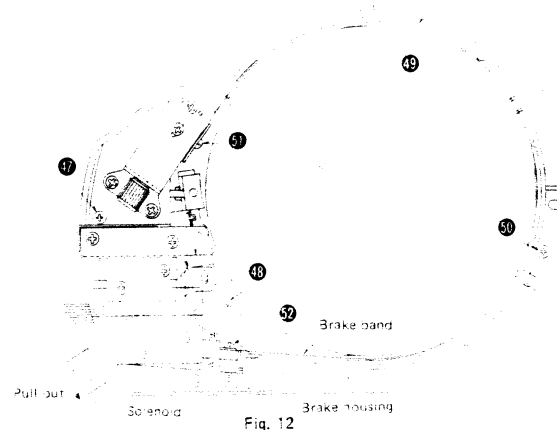

Fig. 12
4. Pull out the lead connector of the solenoid. (Fig. 12)
5. Remove the 4 setscrews (Fig. 12 : 47 ~ 50) of the brake and lift up the brake.
6. When removing the brake band, remove 2 setscrews (Fig. 12 : 51, 52).